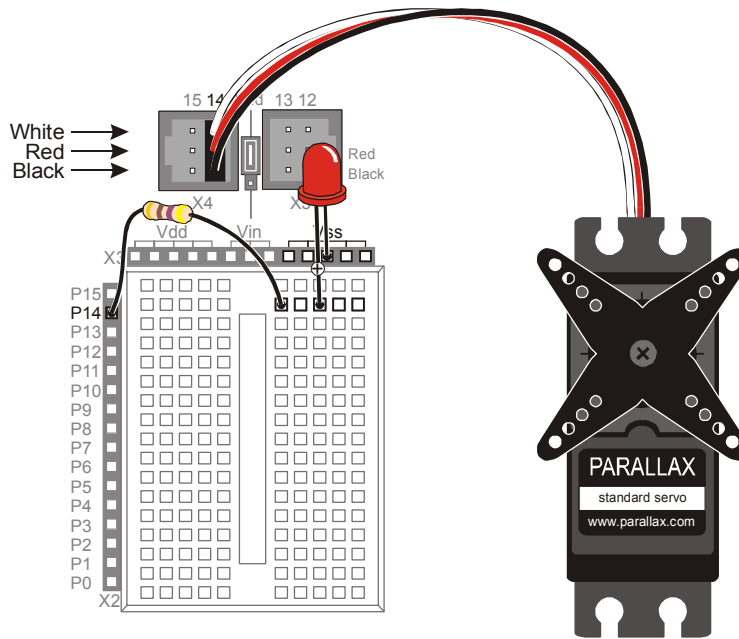

Figure 4-6
- √ Build the circuit shown in Figure 4-6.